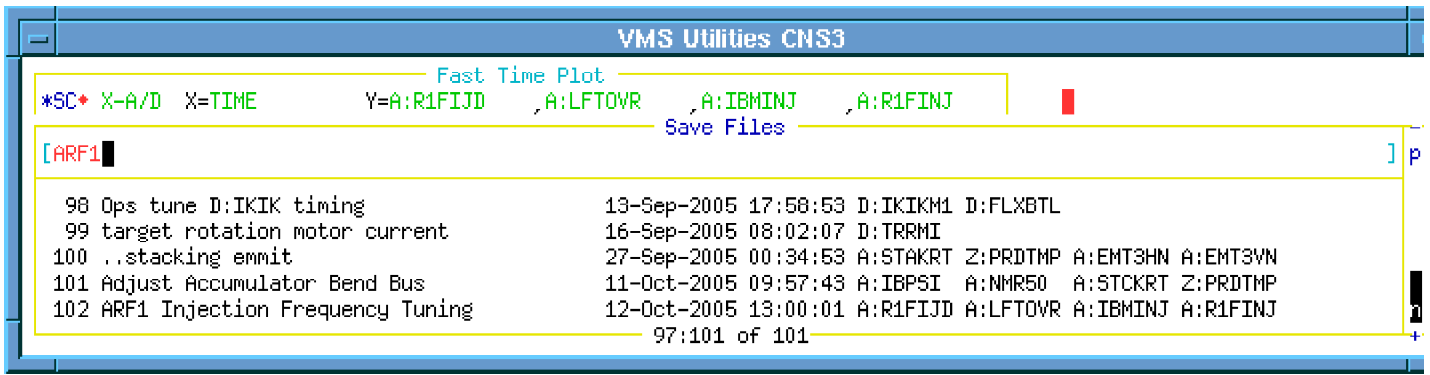
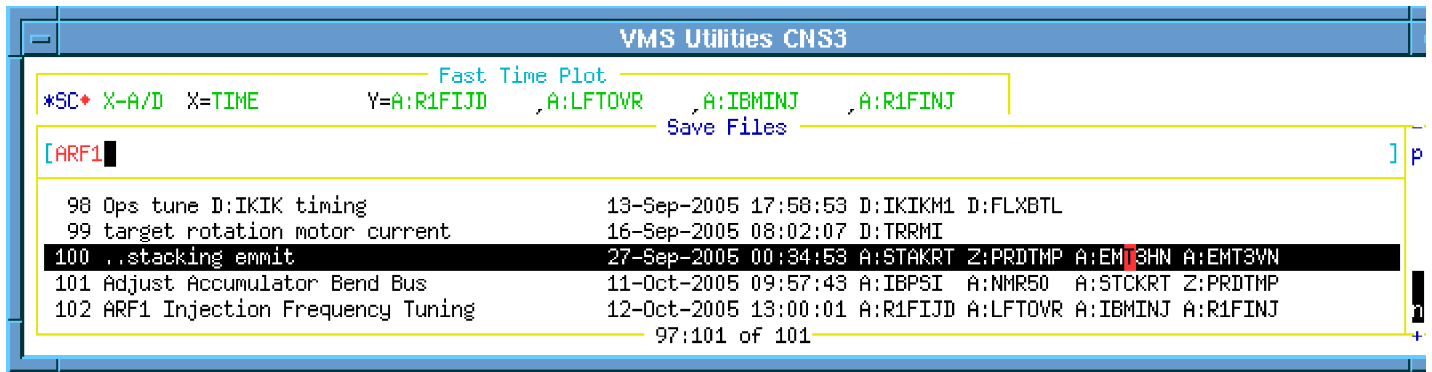

Figure 20: From the Utilities Window, click on FTP, then click on Restore, and then select P-bar. Select file 102 and start the FTP.
Figure 22: From the Utilities Window, click on FTP, then click on Restore, and then select P-bar. Select file 100 and start the FTP.
5. With the Stacktail Monitor running, we will now start two FTPs to help us determine if the ARF1 tuning changes we are about to make do us any good. Start a FTP from Utility Window FTP Pbar File 102 as shown in Figure 20.
7. We should also be sure that we are monitoring the stack rate and production, since our overall goal is to increase their values. If we are not monitoring these values, we can start Utility Window FTP Pbar File 100 as shown in Figure 22. Do not overwrite the plot that was started above in Figure 20.